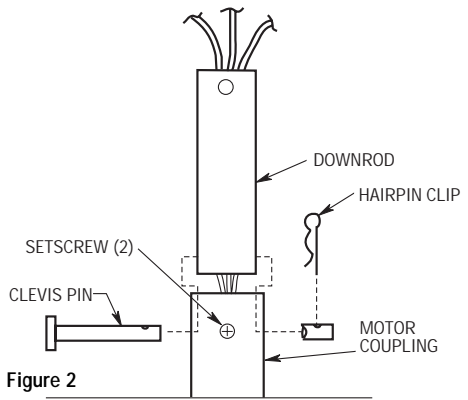

Figure 2
- 2. Loosen setscrew in motor coupling if necessary. Separate, untwist and unkink the three 80" motor leads. Route the motor lead wires through the downrod. Align the clevis pin holes in the downrod with the holes in the motor coupling. Install the clevis pin and secure with the hairpin clip (Figure 2). The clevis pin must go through the holes in the motor coupling and the holes in the downrod. Be sure to push the straight leg of the hairpin clip through the hole near the end of the clevis pin until the curved portion of the hairpin clip snaps around the clevis pin. The hairpin clip must be properly installed to prevent the clevis pin from working loose. Pull on the downrod to make sure the clevis pin is properly installed.
It is critical that the clevis pin in the motor coupling is properly installed and the setscrew securely tightened. Failure to verify that the pin and setscrew are properly installed (as shown in Figure 2) could result in the fan falling.